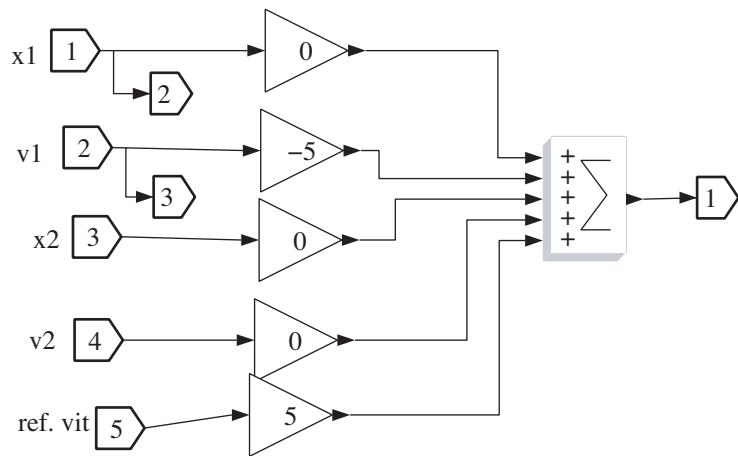
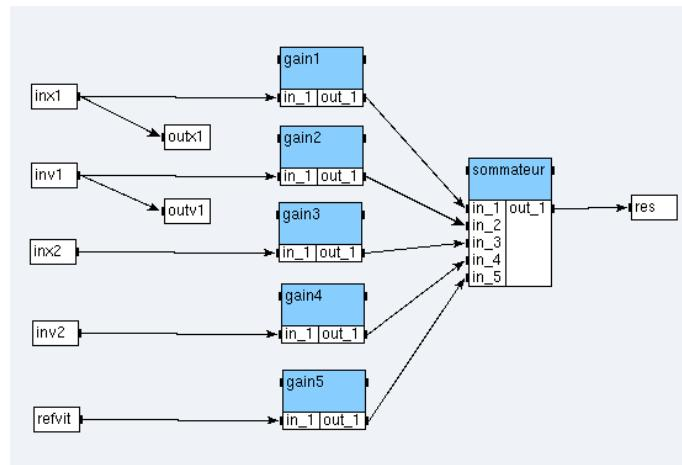

Figure 8.1: Scicos controller of the first car
Figure 8.2: SynDEX controller of the first car
Our controllers are simple. They are represented in figures 8.1 and 8.3 in Scicos and figures 8.2 and 8.4 in SynDEX:
- finally create both algorithms `controleur1_sup` and `controleur2_sup` (cf. figures 8.2 and 8.4), setting their gain parameters respectively to `0, -5, 0, 0, 5` and `4, 4, -4, -4`.